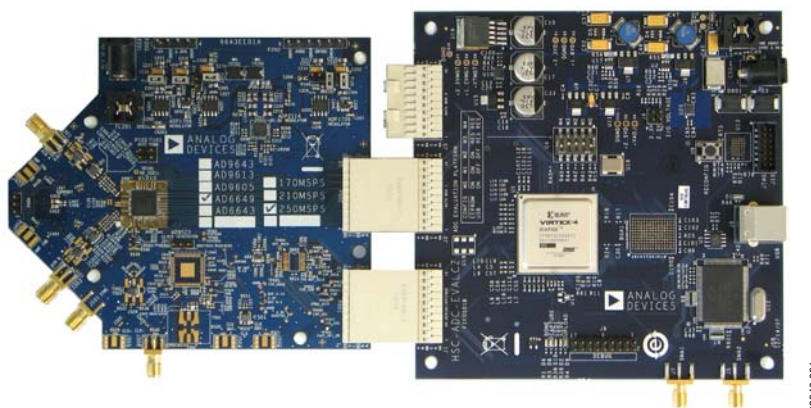
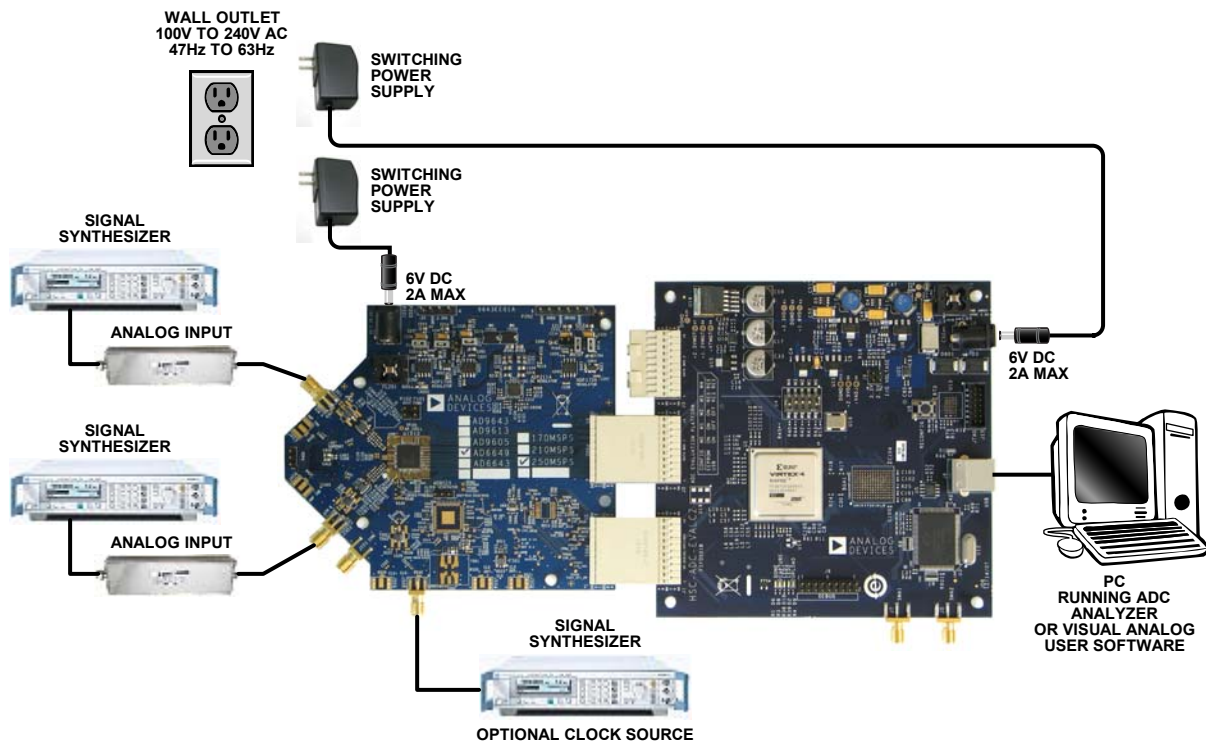

Figure 1. **AD9643, AD9613, AD6649, or AD6643** Family Evaluation Board and **HSC-ADC-EVALCZ** Data Capture Board
Figure 2. Evaluation Board Connection
The AD9643, AD9613, AD6649, or AD6643 evaluation board provides all of the support circuitry required to operate these parts in their various modes and configurations. Figure 2 shows the typical bench characterization setup used to evaluate the ac performance of the AD9643, AD9613, AD6649, or AD6643. It is critical that the signal sources used for the analog input and the clock have very low phase noise (<1 ps rms jitter) to realize the optimum performance of the signal chain. Proper filtering of the analog input signal to remove harmonics and lower the integrated or broadband noise at the input is necessary to achieve the specified noise performance.
1. Connect the evaluation board to the data capture board, as shown in Figure 1 and Figure 2.